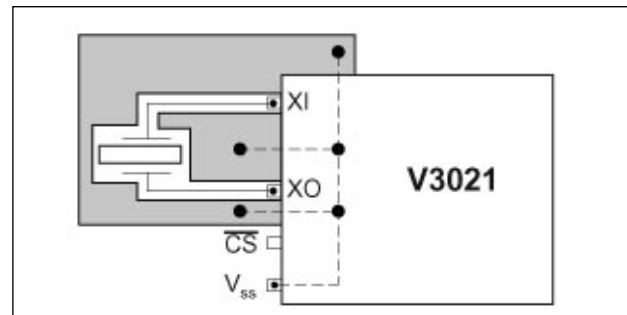

Fig. 12
- Fig. 12 shows the recommended layout.